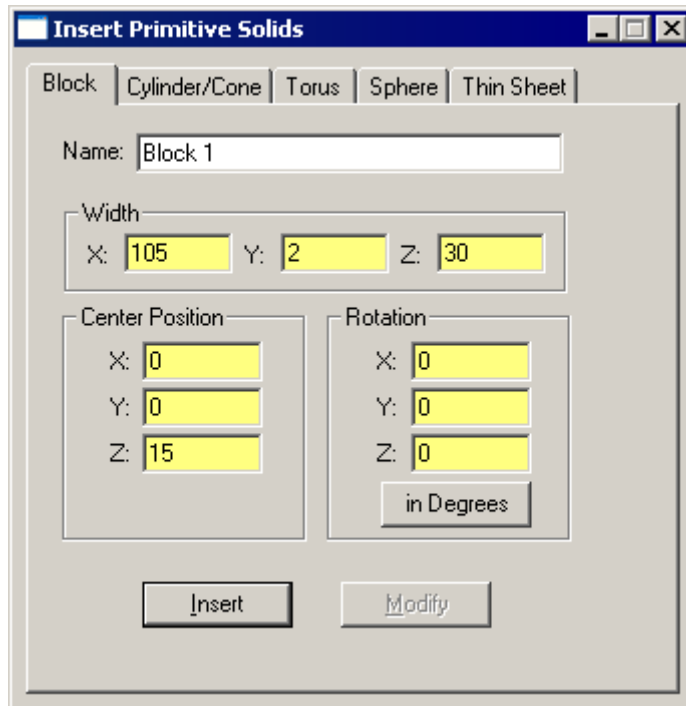

FIGURE 9.18 - Insert a block into a TracePro model as a substrate for the Conical Hole surface.
15. In TracePro, using the **Geometry | Primitive Solid** dialog box, insert a block with dimensions as shown in Figure 9.18.